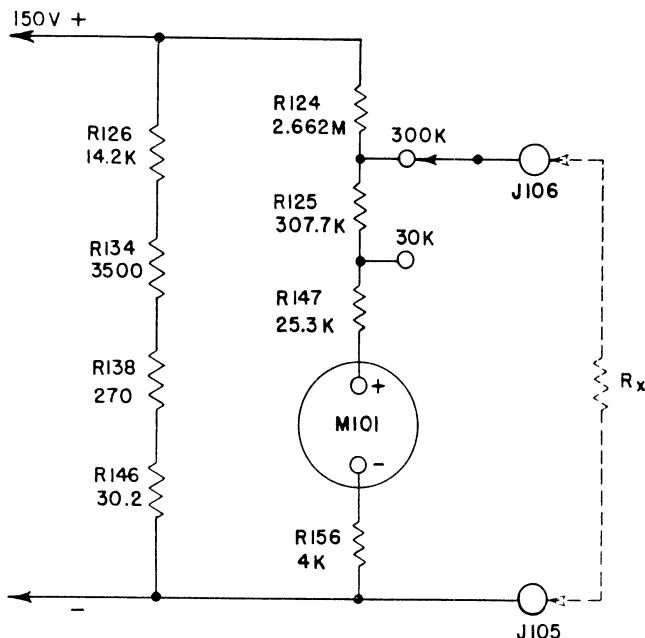

Figure 2-13. Simplified High Range Ohmmeter Circuit
- (a) Setting the FUNCTION selector for OHMS and the RANGE selector at either of the high resistance ranges sets up a circuit illustrated by Figure 2-13.